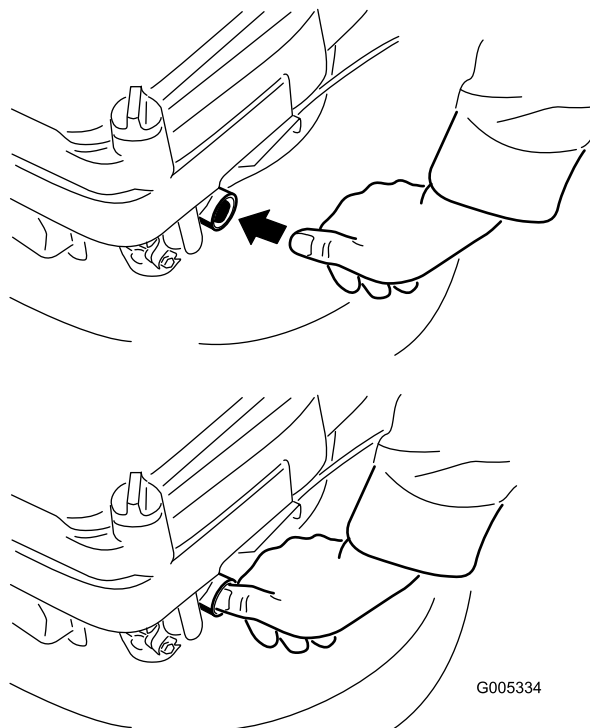

Figure 14
2. Firmly push in the primer once with your thumb (Figure 14).